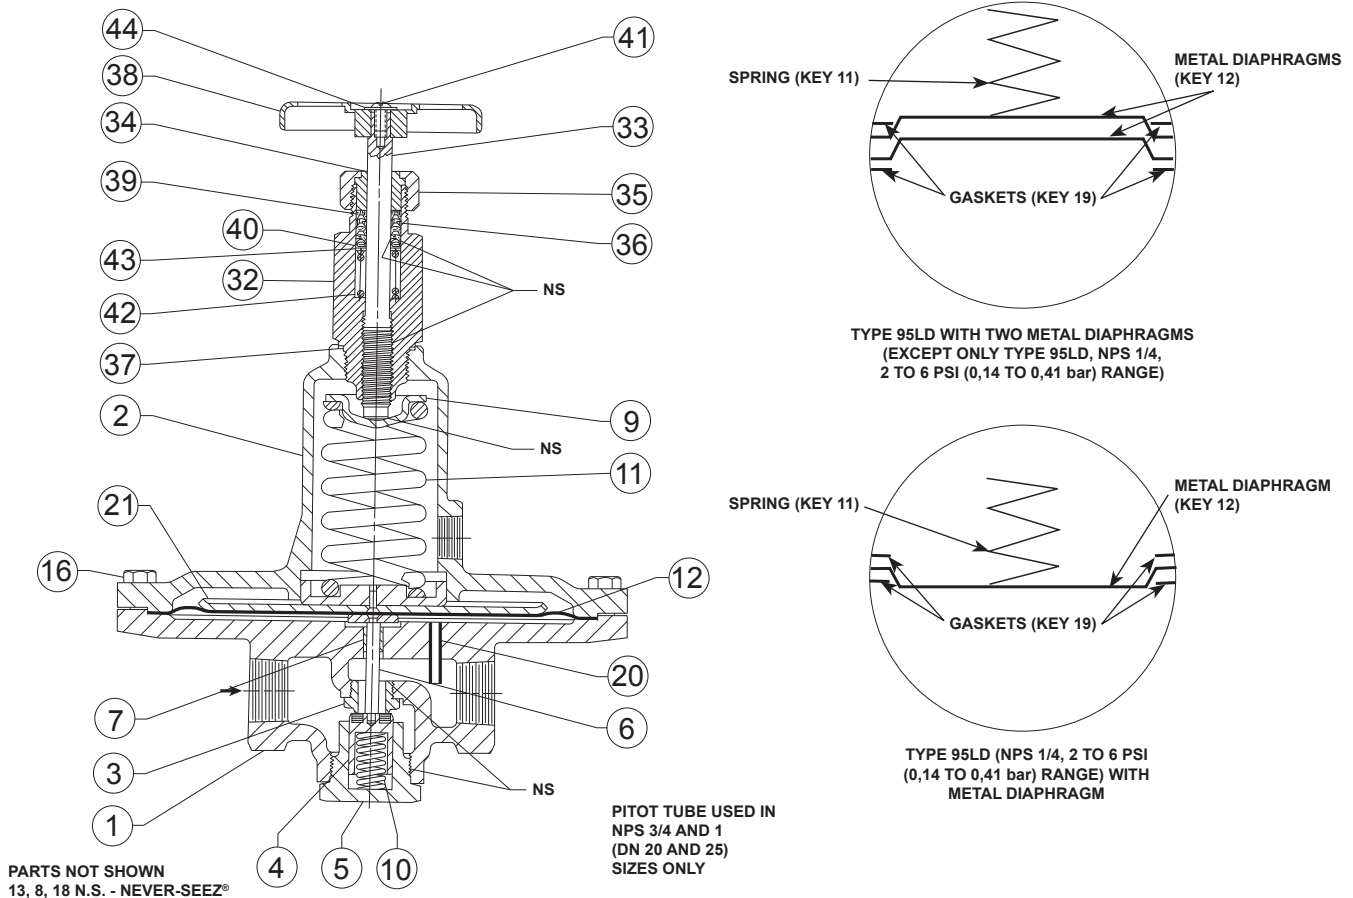

Figure 4. Type 95LD Regulator Assembly
Key numbers are referenced in Figures 4 and 5.
Refer to Figure 4 or 5 while disassembling the regulator. The regulator does not have to be taken out of the pipeline to be disassembled. Relieve the spring compression by turning the handwheel (key 38) counterclockwise.
diaphragms used per regulator, except for Type 95LD, NPS 1/4 with 2 to 6 psi (0,14 to 0,41 bar) outlet setting which uses only one metal diaphragm (the metal diaphragm is in between two diaphragm gaskets). Another diaphragm gasket will be placed on top of the second metal diaphragm. The raised surfaces of the metal diaphragms should be placed in the unit so that they are facing toward the assembler (toward the spring) except only when one metal diaphragm is being used then the raised surface should be facing down (towards the body). See Figures 4 and 5 as references.